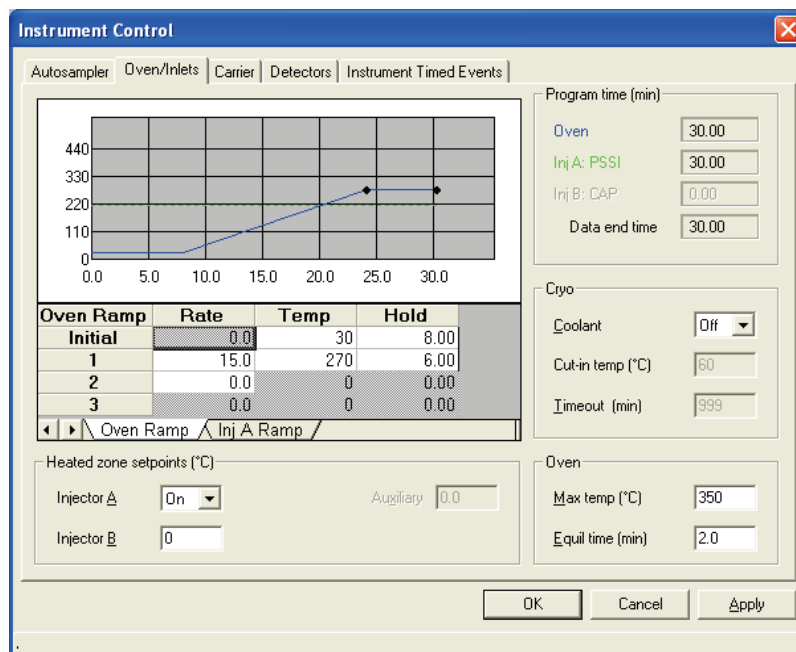

Figure 72 GC method oven temperature program in the Instrument Control dialog
3. Set up a GC method using the Instrument Control dialog (Figure 72).